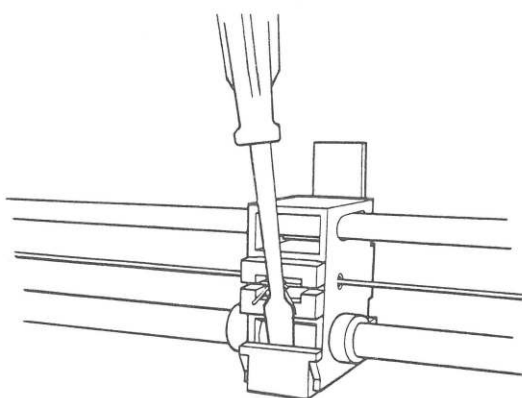

FIGURE 4
3. Using a small screwdriver, pry the cable clip away from the head carrier, forward and down (Figure 4). The cable will fall away from the head assembly.